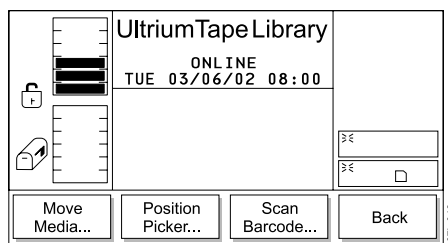

Figure 145. Move Submenu
2. Press the button below the **Move** softkey. The Move Submenu displays (see Figure 145).
5. To return to the Move Submenu (see Figure 145 on page 130), press the button below the **OK** softkey. To return to the Main Menu press the button below the **OK** softkey, then press the button below the **Back** softkey until the Main Menu displays.